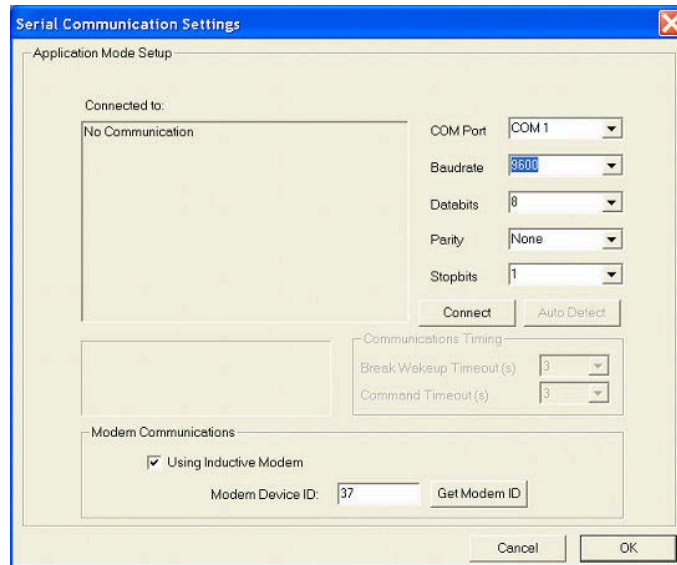

Figure 3. Communication Setting – Inductive Modem Configuration
7. Leave the other settings at their default values as shown in Figure 3.